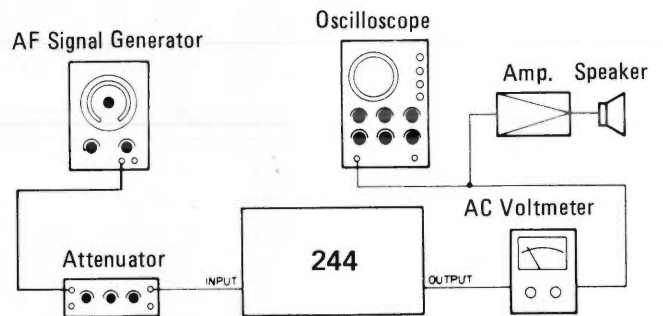

Fig. 4-6-3
- 1) Connect the test equipments as shown in Fig. 4-6-3.
- 1) Connect test equipments as shown in Fig. 4-6-3, and adjust PGM MASTER fader on the front panel so that  $-10$  dBV is obtained at the PGM OUT jack as mentioned in the item 4-5-2 (steps 1 and 2).
- 1) Connect the test equipments as shown in Fig. 4-6-3 and adjust PGM MASTER fader so that  $-10$  dBV is obtained at the PGM OUT jack as mentioned under the item 4-5-2 (steps 1 and 2).